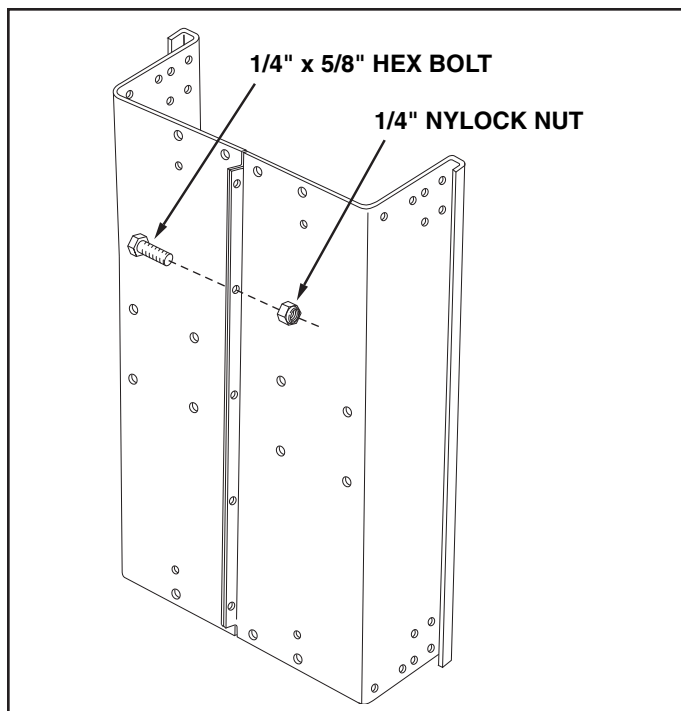

FIGURE 1
3. Position cart body halves upright on a smooth level surface such as a garage floor or a paved driveway. See figure 1.
4. Assemble halves together using five 1/4" x 5/8" hex bolts and 1/4" nylock nuts as shown in figure 1. **Do not tighten yet.**